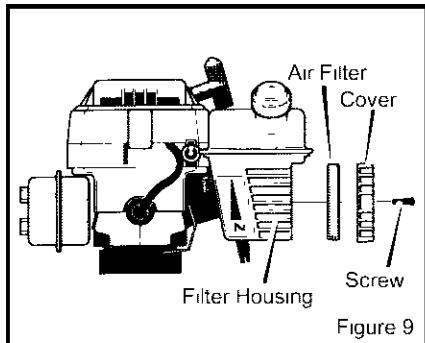

Figure 9
- 2 Remove the **screws** from the **air filter cover** (see Figure 9) Remove the **air filter cover** and the **air filter**